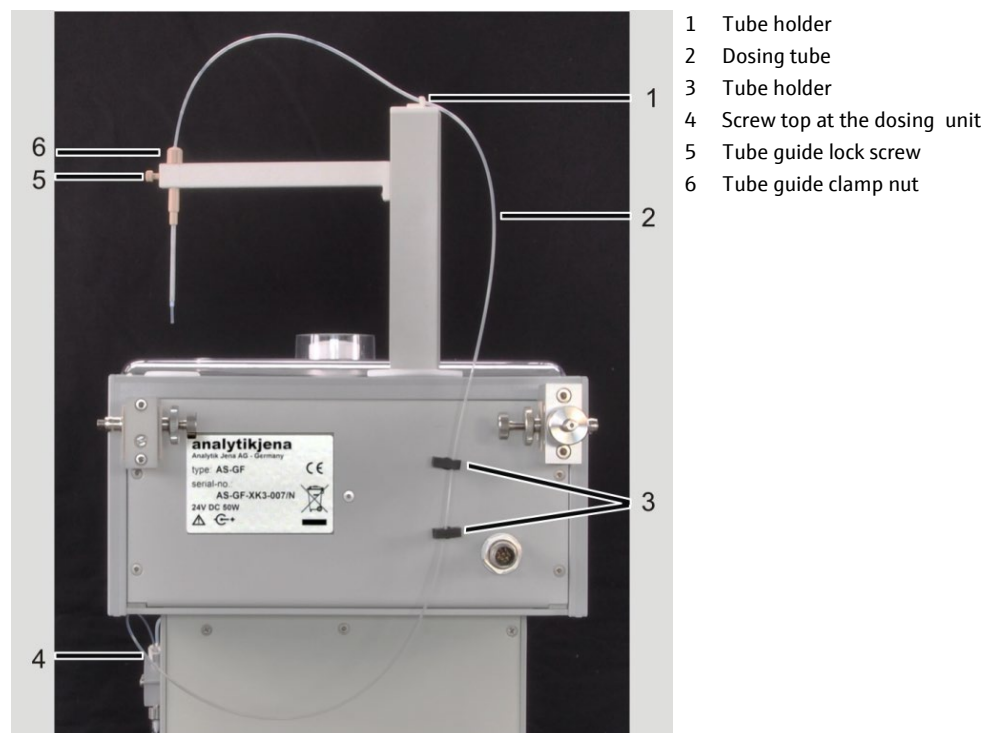

Fig. 65 Dosing tube at the AS-GF
Shortening the dosing tube of the AS-GF	<ol style="list-style-type: none"> <li>1. Loosen the clamp nut at the tube guide (6 in Fig. 65) and remove the dosing tube by pulling upwards.</li> <li>2. Cut the dosing tube with a razor blade or a scalpel at an angle of 10° to 15°.</li> <li>3. Push the dosing tube as far as possible into the tube guide until the dosing tube protrudes by approx. 8 mm at the bottom.</li> <li>4. Lock the dosing tube with the clamp nut.</li> <li>5. Readjust the injection depth of the sample (→ section "Adjusting the AS-GF" p. 62).</li> </ol>
Replacing the dosing tube	<ol style="list-style-type: none"> <li>1. Loosen the clamp nut at the tube guide (6 in Fig. 65) and pull out the tube. Remove the tube from the tube holders at the sample arm and the back of the autosampler (1 and 3 in Fig. 65).</li> </ol>
2. Detach the screw top from the T valve of the dosing unit (4 in Fig. 65).